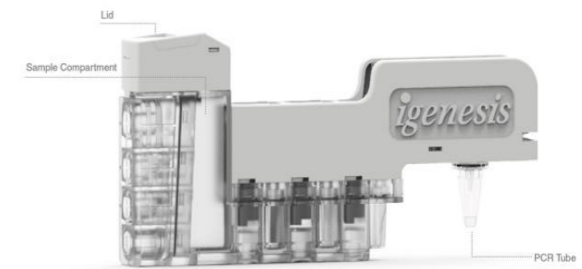

Figure 1 Carba-R iCassette (Lateral View)
C. Open the lid of the iCassette, and pipette 200 μl of sample to the Carba-R iCassette sample compartment as shown in Figure 1. slowly, close the lid tightly.(Note: After the sample is added to the iCassette, the test needs to start running within 30 minutes)
B.Pipette 200 μL of positive control or negative control into Carba-R iCassette sample compartment as shown in Figure1, close the lid tightly.